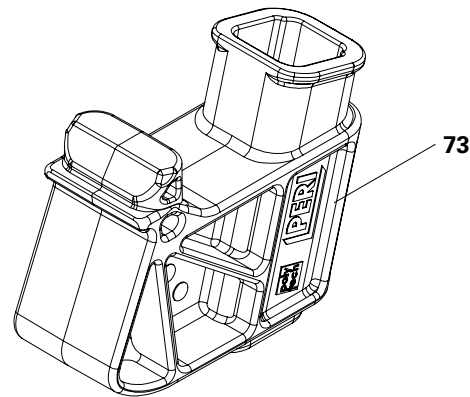

Fig. B4.04
The DUO front post holder (73) is mounted on the DP wall formwork panel for the purpose of installing guardrails. Do not mount it on the slab formwork panel. A significant feature of this is that a range of PERI guardrail posts can be used (e.g. PP posts (71) and HSGP-2 guardrail posts (79)). (Fig. B4.04 + B4.05 + B4.05a + B4.05b)